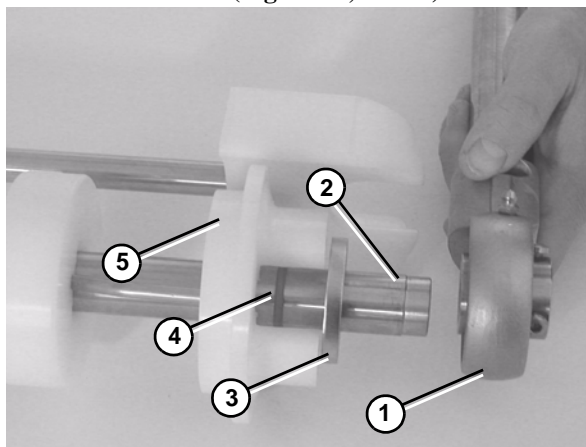

Figure 66
- Attach the flanged pucks (**Figure 66, item 5**), the O-rings (**Figure 66, item 4**), the washers (**Figure 66, item 3**) and the bearing shaft assemblies (**Figure 66, item 1**) onto the idler shaft (**Figure 66, item 2**).